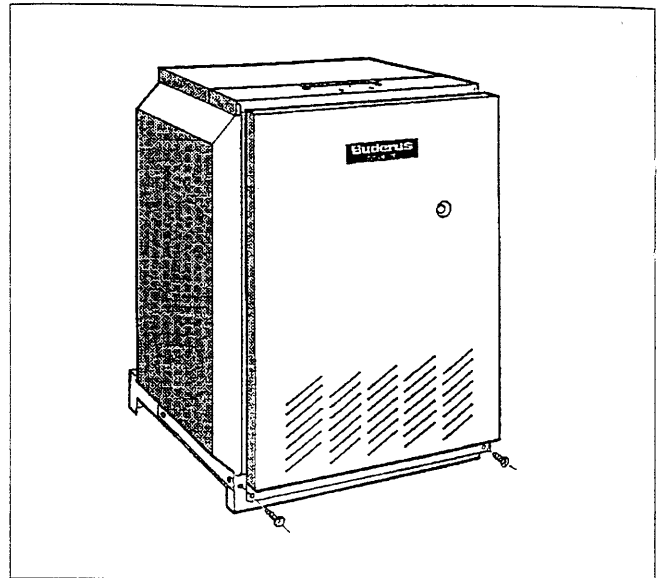

Fig.1
3. Remove Control Access Panel from the boiler, fig. 1